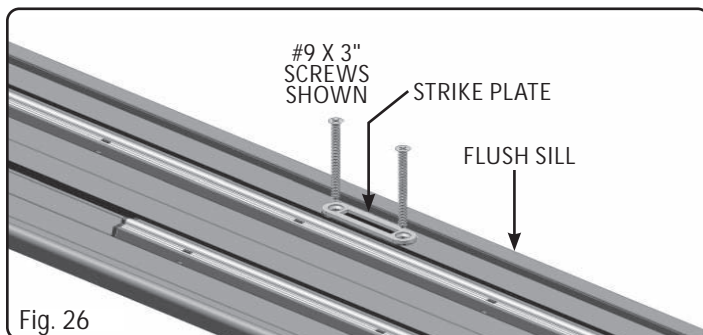

Fig. 26
- Replace the short shipping screws in the shoot bolt keepers with the provided #9 x 3" screws. There is a shoot bolt keeper at each meeting stile joint, **(Fig. 26)**.